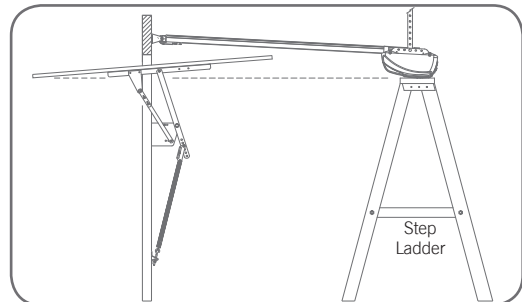

Fig. 19
- Support the powerhead level with the lowest point of the open door (**Fig. 19**).